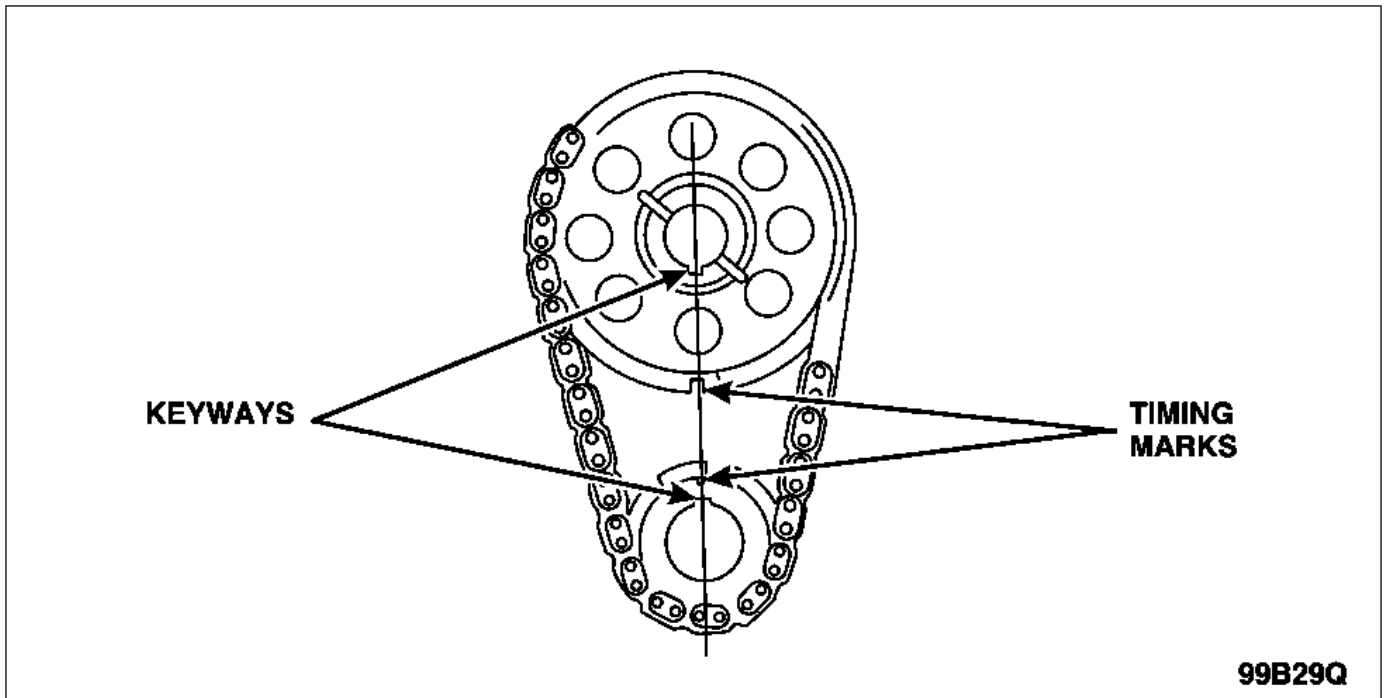

FIGURE 17
55. Rotate the crankshaft until the timing marks and the keyways are aligned. See Figure 17. This will position cylinder number 1 at TDC of the compression stroke, which is also required for camshaft synchronizer assembly installation.